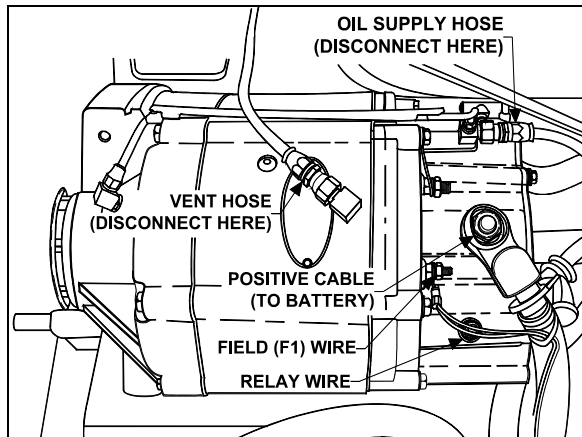
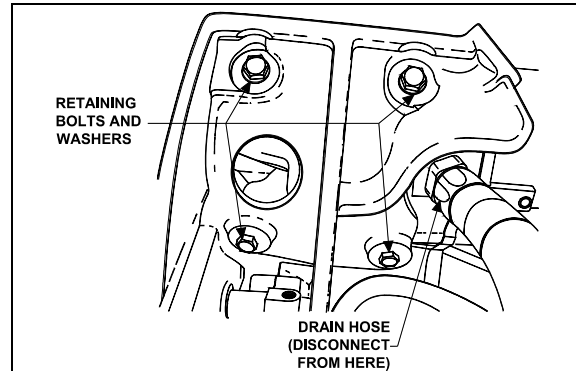

FIGURE 29: ALTERNATOR (HOSES AND WIRES) 06341
FIGURE 30: ALTERNATOR RETAINING BOLTS AND WASHERS 06350
4. Scratch off protective sealer from electrical connections (relay, field and positive terminals). Refer to figure 29.
5. Disconnect wire #25 from the relay terminal, wire #107 from the field "F1" terminal and disconnect battery cable from the positive "+" terminal on the diode end cover. Tag wires removed to ease identification at time of installation. Refer to figure 29.
6. Disconnect oil supply line and vent hose from top of alternator (Fig. 29) and tape lines to prevent entry of foreign matter. Disconnect oil drain hose from bottom of alternator (Fig. 30) and tape line to prevent entry of foreign matter.
7. Remove the four bolts and lock washers fixing the alternator (refer to fig. 30).